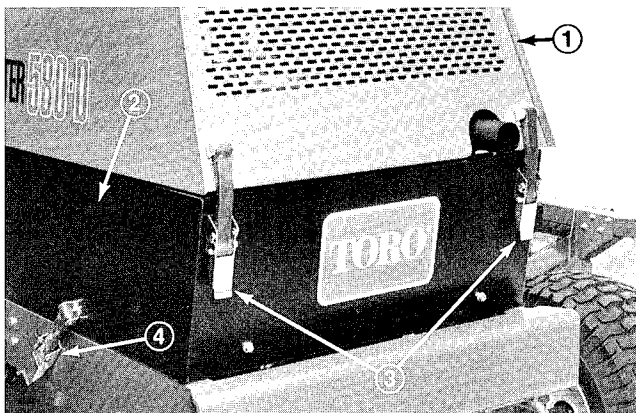

Figure 1
1. Unlatch the hood and left hand engine side panel (Fig. 1). Raise and prop hood open and remove the left side panel. Make sure hood prop is secured in one of the mounting brackets on hood.
2. Unlatch hood and raise and prop it open (Fig. 1). Make sure hood prop is secured in one of the mounting brackets on hood.